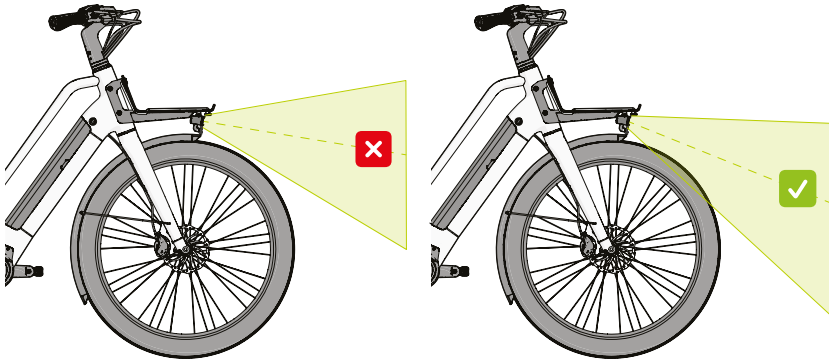

Figure 19 - Correct lighting angle.
Tilt the front light ⑨ until the light beam shines as far ahead as possible but still touches the ground so you can see as much of the road surface as possible, as indicated in Figure 19.